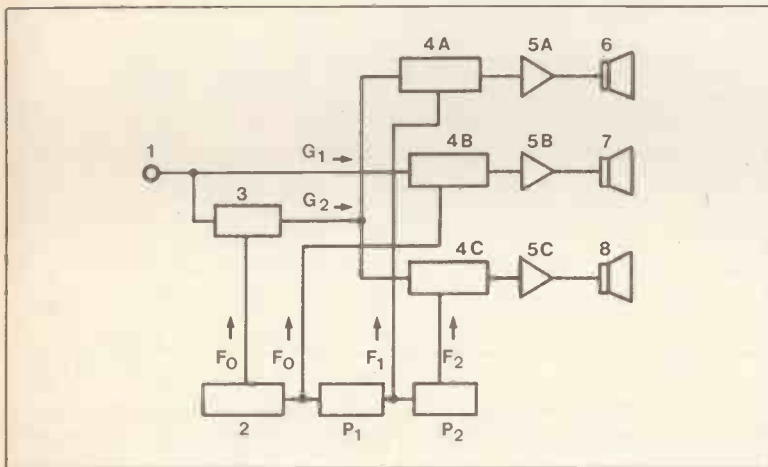

Figure 1.
Three speakers are used, equally spaced along a straight line facing the listener. Each speaker has its own power amplifier and voltage controlled amplifier so that the signal level of each can be separately modulated. The centre channel is fed with the input signal directly, while the other two receive a frequency modulated version from a voltage controlled delay element (3 in Figure 1). The VCA's and delay are controlled by signals from the modulation section, which consists of a 0.2 to 10Hz sine wave oscillator (2) and two phase shift networks (P_1 & P_2). Since the modulating signals for the outer channels are